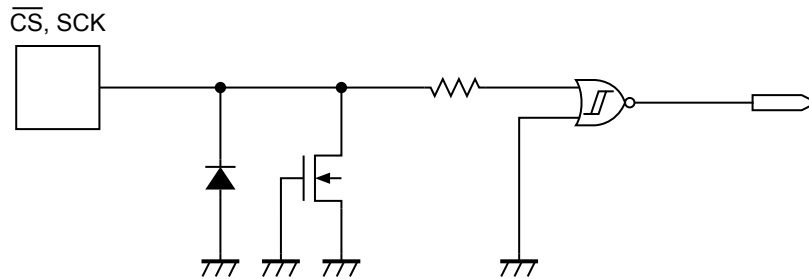

Figure 25  $\overline{\text{CS}}$ , SCK Pin
**Figure 25** and **26** show the equivalent circuits of input pins in the S-25C010A/020A/040A. A pull-up and pull-down elements are not included in each input pin, pay attention not to set it in the floating state when you design.